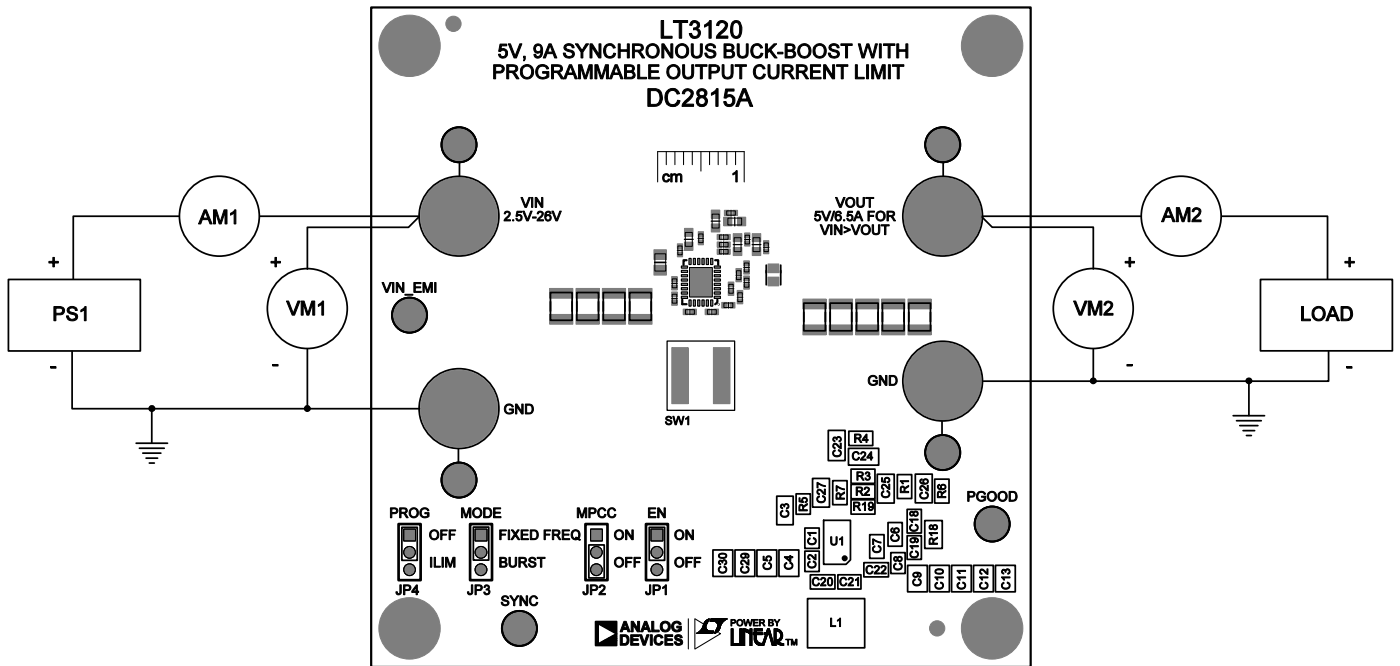

Figure 1. Test Procedure Setup Drawing for DC2815A
Using short twisted pair leads for any power connections and with all loads and power supplies off, refer to Figure 1 for the proper measurement and equipment setup. The Power Supply (PS1) should not be connected to the circuit until told to do so in the procedure below.
- JP1 (EN) = ON
2. With power OFF connect the power supply (PS1) as shown in Figure 1. If accurate current measurements are desired (for efficiency calculations for example) connect an ammeter in series with the supply as shown. The ammeter is not required however.
5. Connect a 5A load to VOUT as shown in Figure 1 (1Ω for VOUT = 5V). Connect an ammeter if accurate current measurement or monitoring is desired.